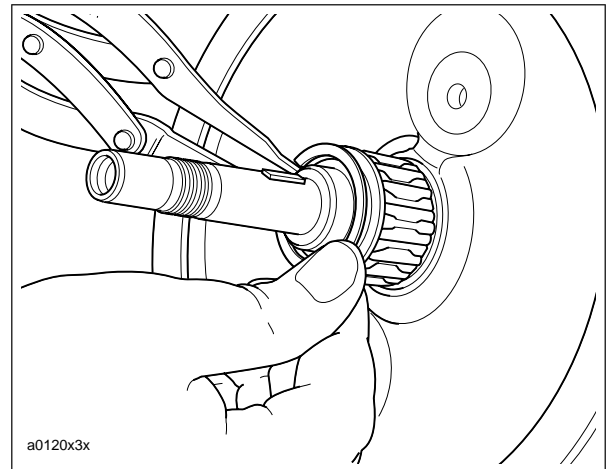

**Figure 3-152. Installing Flywheel Assembly with CRANKSHAFT GUIDE (Part No. HD-42326)**
4. See Figure 3-152. Attach left crankcase half to engine stand.